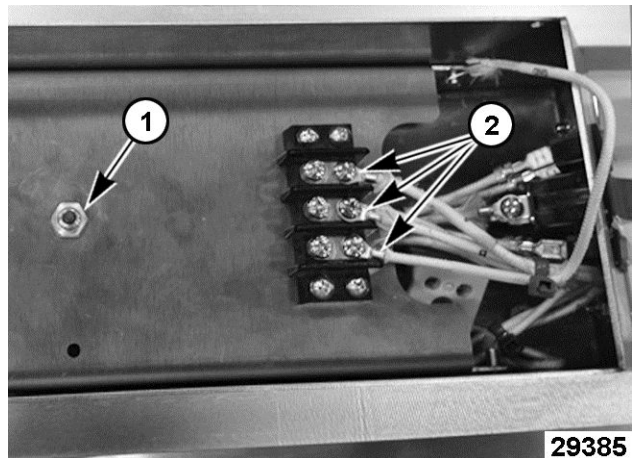

Fig. 34
3. Remove mounting nut (1, Fig. 34) securing high limit to control box mounting shelf.
- B. Note heating element wire locations (2, Fig. 34) and disconnect from terminal strip.